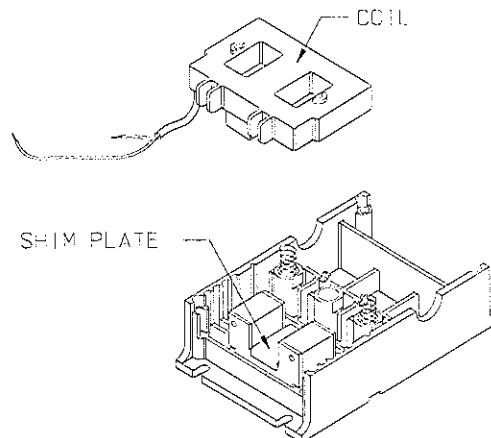

FIGURE 3C
6. Remove and replace the coil. Ensure that the Shim Plate remains in the proper position between the magnet core and coil (FIGURE 3C).